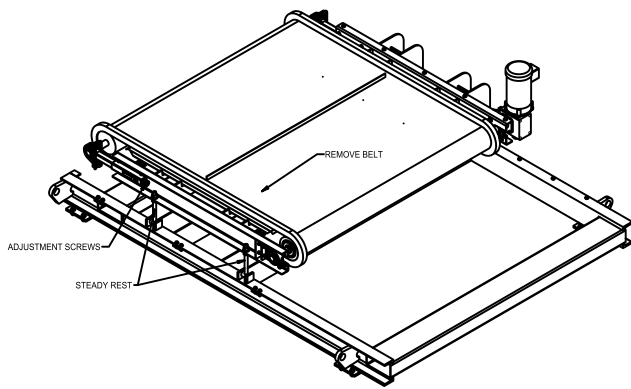

FIGURE 5. BELT REMOVAL
3. Referring to Fig. 5, loosen the nuts on the (2) steady rests and then swing down.